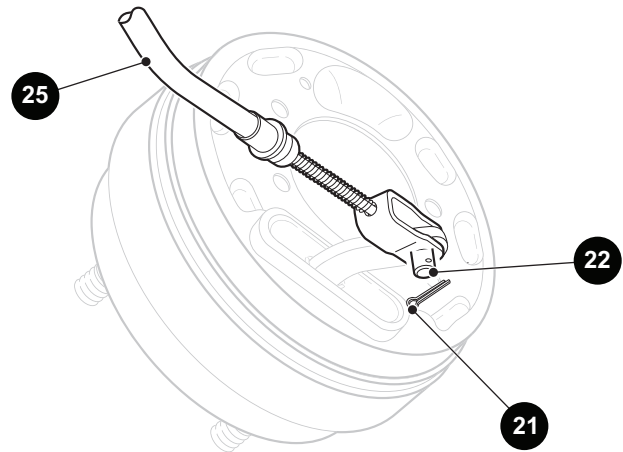

Fig. 27 Cable Connection (Drum End)
- Connect the cables (20) to the brake levers using new clevis pins (22) and new cotter pins (21) (Ref Fig. 27).